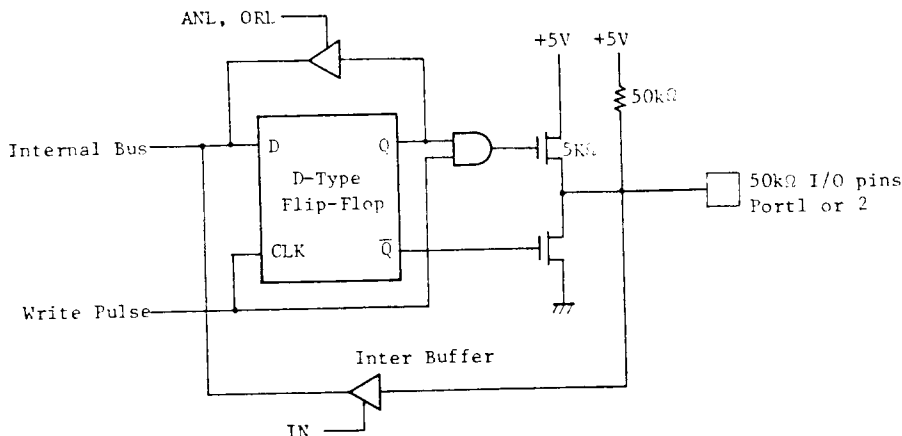

Fig.1 Input/Output Circuit of Port 1, Port 2
(3) Input/Output Ports
- All lines of Ports 1 and 2 are called quasi-bidirectional because of a special output circuit structure (illustrated in Figure 1). Each line is continuously pulled to a +5V level through a high impedance resistive device (50kΩ) which is sufficient to provide the source current for a TTL high level yet can be pulled low by a standard TTL gate thus allowing the same pin to be used for both input and output. In order to speed up the "0" to "1" transition a low impedance device (5kΩ) is switched in momentarily whenever a "1" is written to line. When a "0" is written to line a low impedance device overcomes the pullup and provides TTL current sinking capability.